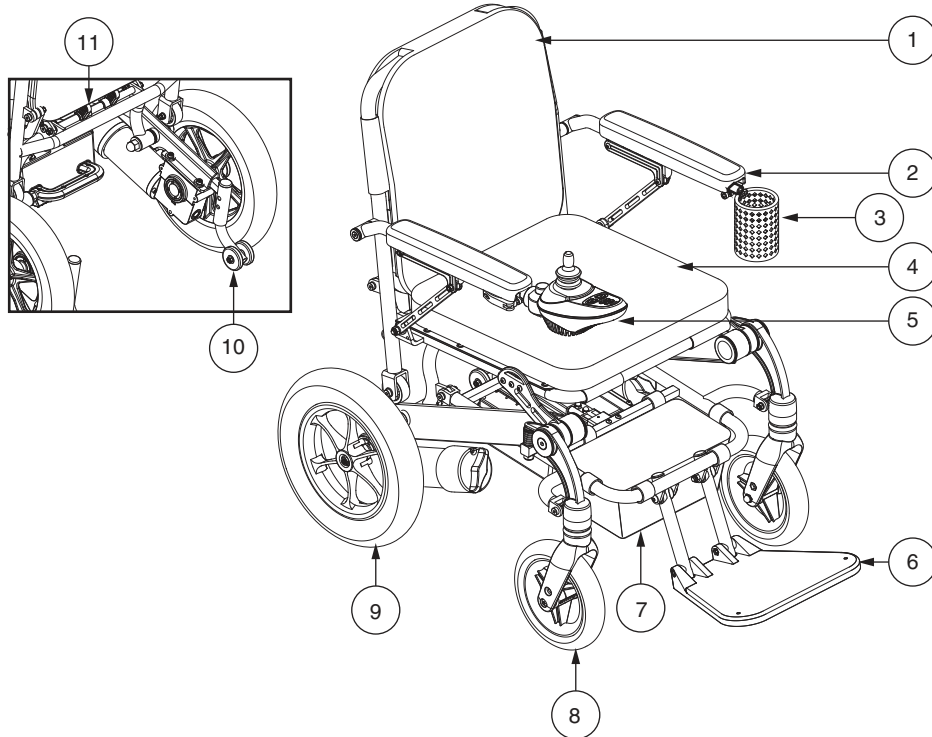

Figure 1. The Jazzy Passport
The Jazzy Passport is a power chair that you can easily fold for transportation or storage. The battery box slides into the rear of the power base. See figures 1 and 2 for power chair components.
2. Standing at the rear of the chair, locate the locking mechanism. **See figure 1.**
1. Standing at the rear of the chair, locate the locking mechanism. **See figure 1.**